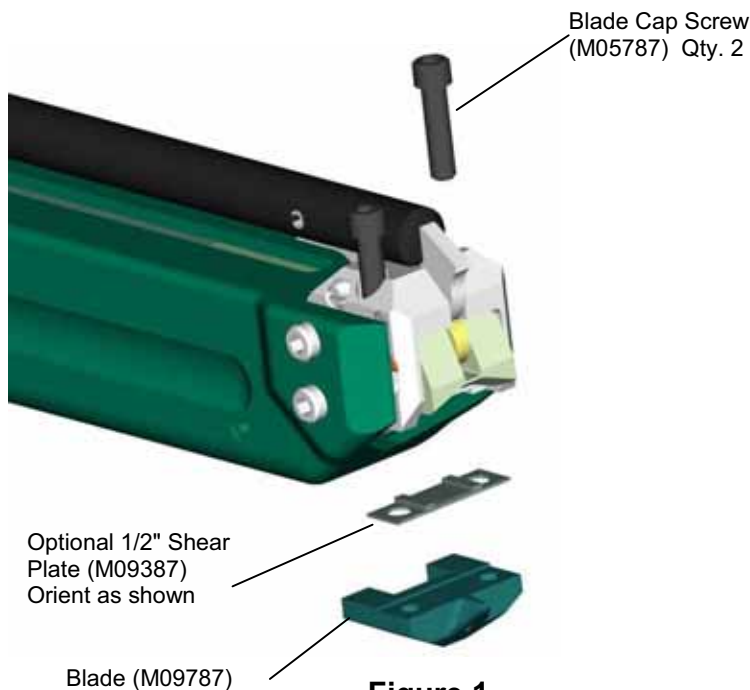

Figure 1
3. Remove the Blade from head by removing the two Cap Screws (M05787) from the top of the Head. It is not necessary to remove entire head from tool in order to remove blade. (Figure 1) Remove the 3/4" shear plate from the blade.
4. Align the 1/2" Shear Plate (M09387) with the Blade (M09787) so that the guide is facing up. Incorrect placement will not allow bands to be inserted into the Tool. (Figure 1)